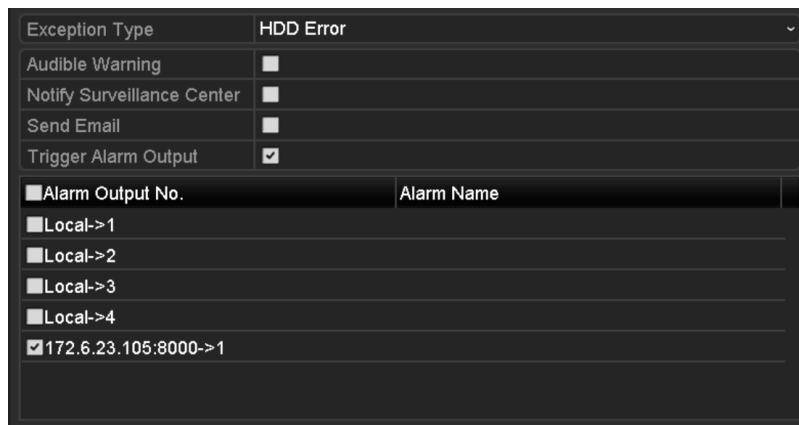

Figure 12-12 Configure HDD Error Alarm
Step 3 Click the checkbox(s) below to select the HDD error alarm type (s), as shown in Figure 12-12.